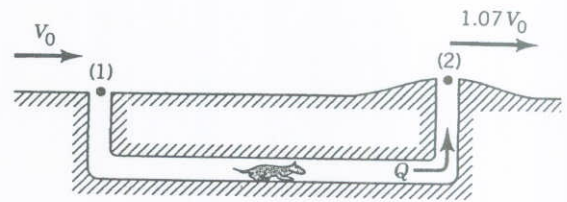

FIGURE P3.22
**3.22** Some animals have learned to take advantage of the Bernoulli effect without having read a fluid mechanics book. For example, a typical prairie dog burrow contains two entrances—a flat front door, and a mounded back door as shown in Fig. P3.22. When the wind blows with velocity  $V_0$  across the front door, the average velocity across the back door is greater than  $V_0$  because of the mound. Assume the air velocity across the back door is  $1.07V_0$ . For a wind velocity of 6 m/s, what pressure differences,  $p_1 - p_2$ , is generated to provide a fresh air flow within the burrow?